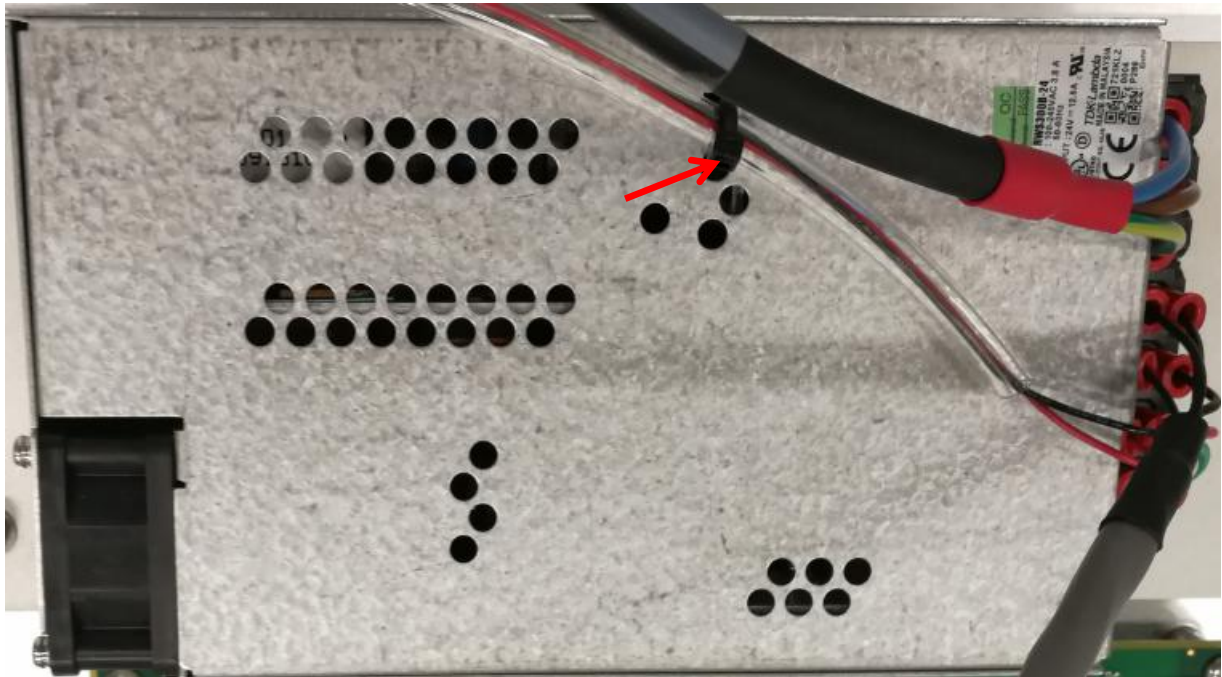

Figure 13 Cable Tie removal
15. Remove Cable Ties at Trigger Board Power Supply Convection Casing as below Figure 13